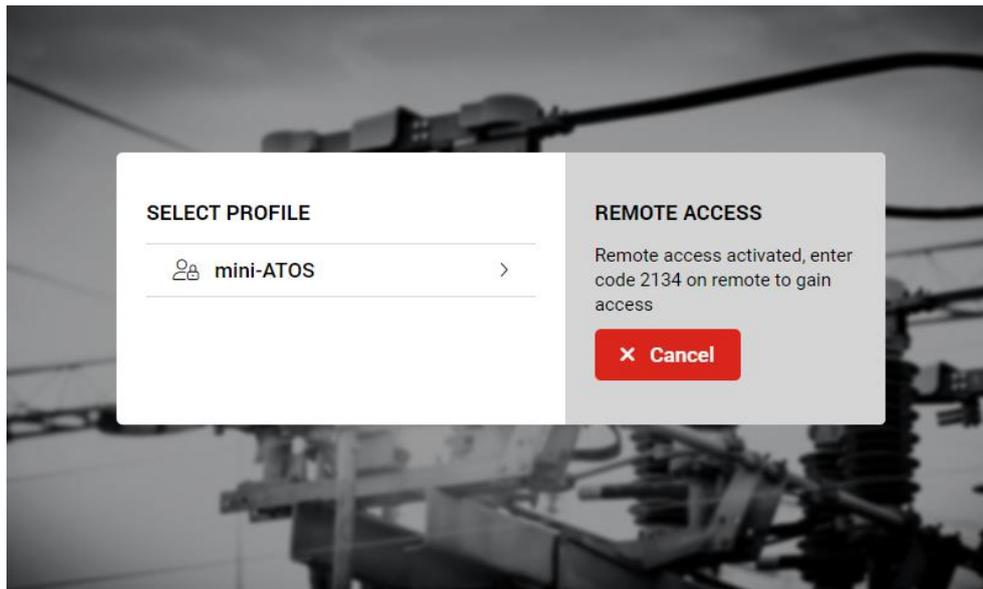

Figure 53: Remote access activated with an auto-generated key on the mini-ATOS display
- 4- Activate remote access on the select profile page. If you didn't input the access key manually in the settings, you will see then the auto-generated access key (Figure 53)